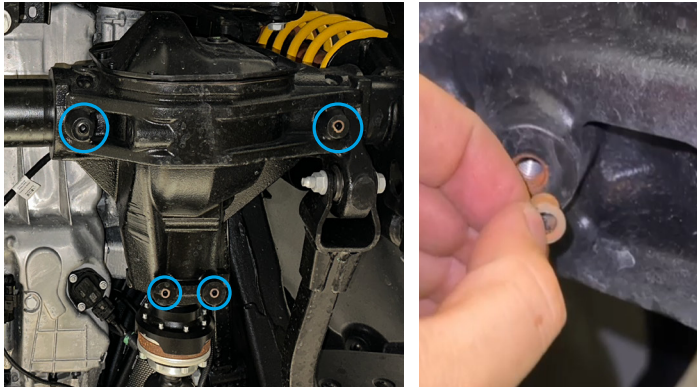

Fig. 1
1. Remove the factory rubber plugs from the threaded holes (fig.1)